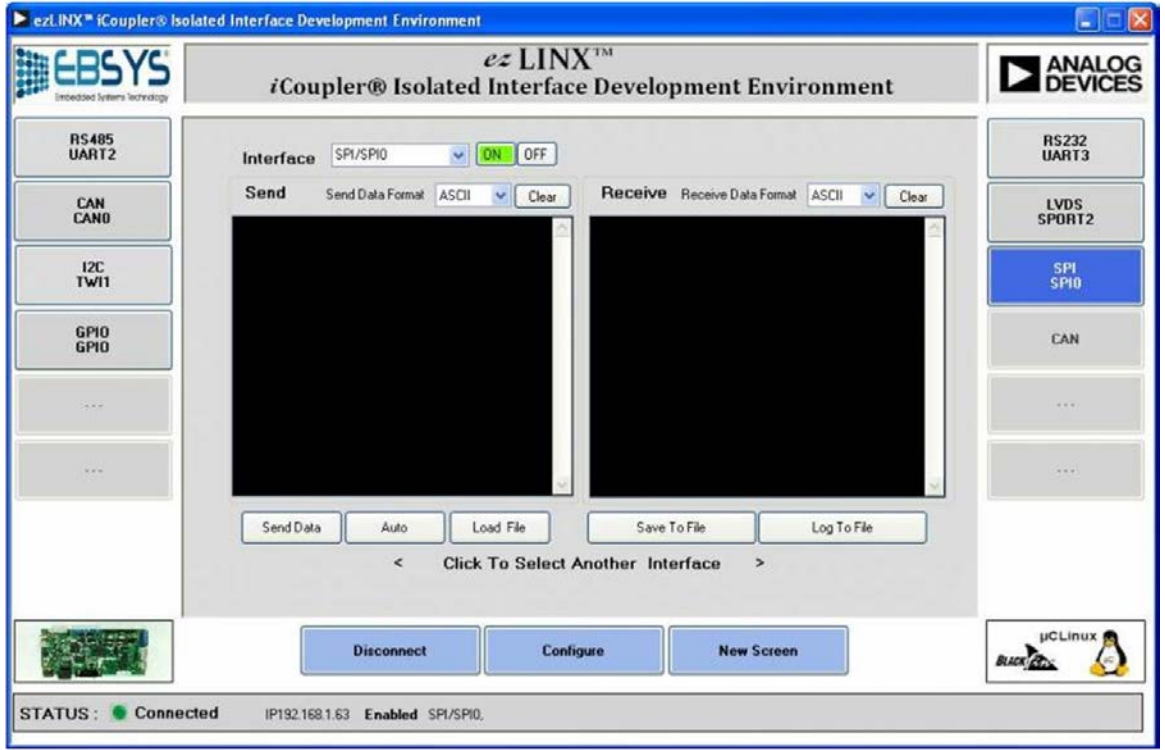

Figure 27. SPI Send/Receive Window
- **Channel** box: Select which slave to connect to; each channel corresponds to a slave select line. This function is available only when the operation mode selected is master. The ezLINX hardware platform has three slave select lines; therefore, a master can be connected to up to three slave devices. Confirm your selection by clicking **Use Changes** near the bottom of the window. If you are connected to an ezLINX hardware platform and the **Transceiver Enable** check box is selected, the **SPI Send/Receive** window opens (see Figure 27).
The **SPI Send/Receive** window is shown in Figure 27. The window is identical to the **RS-232 Send/Receive** window. The left section of the window is used to transmit data by clicking **Send Data**, and the right section of the window is used to receive data in real time.